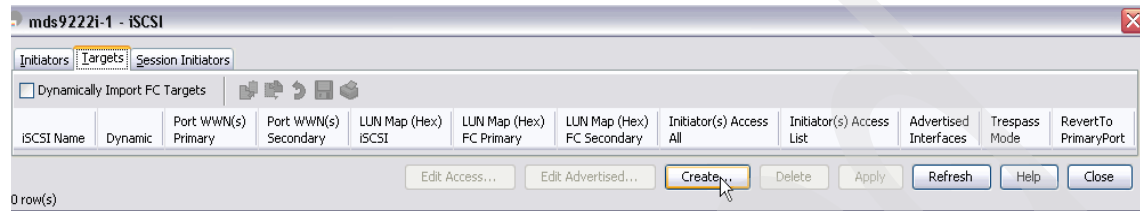

Figure 7-41 Device Manager iSCSI Targets panel
1. Select **IP** → **SCSI** → **Targets** → **Create**, as shown in Figure 7-41.